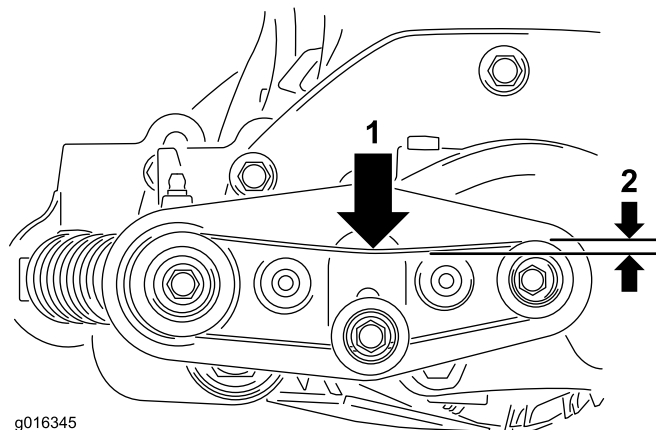

Figure 12
14. Check the tension on the brush drive belt. The belt should have approximately 6 mm (1/4 inch) deflection at the center of the belt with 1 kg (2 lb) of force applied; see Figure 12.